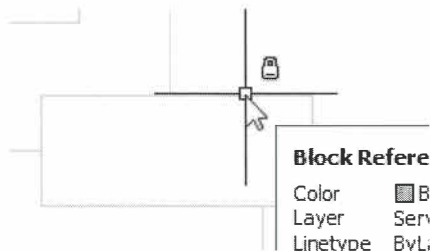

Figure 1-64
- A small padlock icon displays when you hover the cursor over a locked layer, as shown in Figure 1-64.